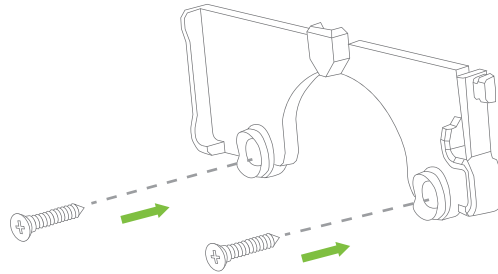
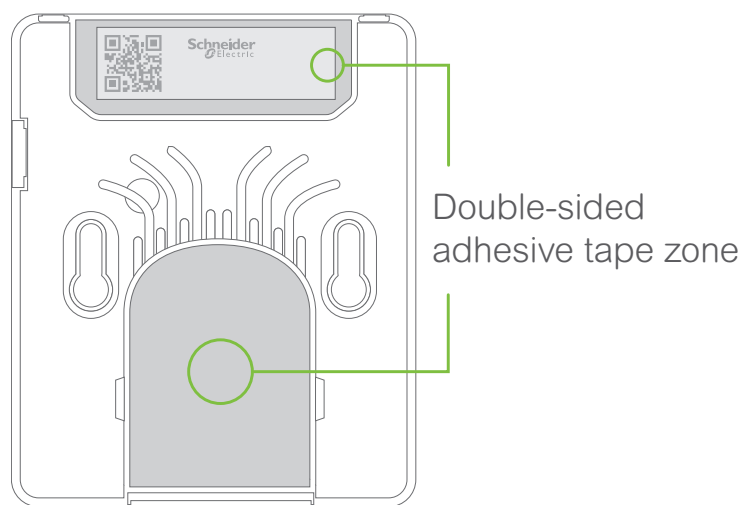
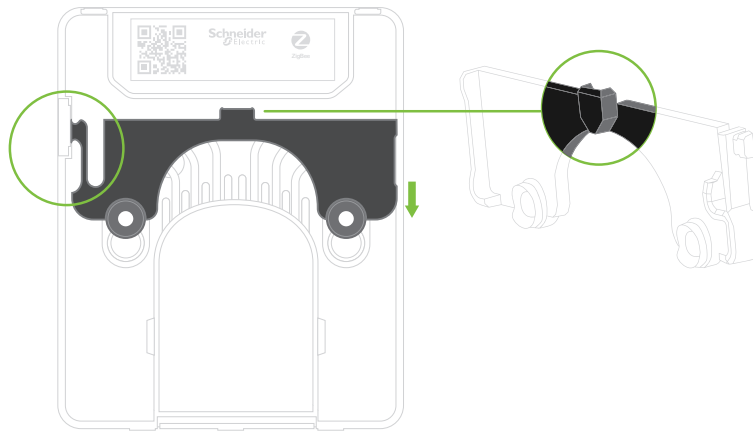

Figure 1
Figure 2
Figure 3
The wireless CO2 + TRH sensor can be secured directly on a wall or flat surface using double-sided adhesive tape (Figure 2), or by securing the plastic bracket to the wall (Figure 1) and mounting the sensor (Figure 3). Using the screws is the recommended method.
1. Using the two screws provided, secure the wall bracket to the wall (Figure 1).
2. Once bracket is secured, slide sensor on bracket using downward motion (Figure 3).
3. Ensure click sound is heard to verify sensor is secured to bracket and ensure side tab of bracket is aligned with opening on side of sensor (Figure 3).
To remove the sensor from the wall bracket, press on the side tab as circled in Figure 3 and slide the sensor up and then out.